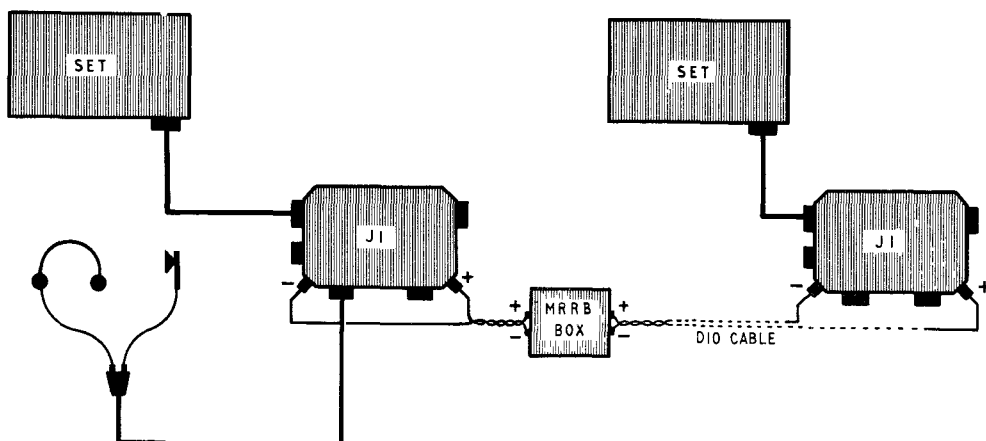

FIG. 6 REBROADCASTING WITH TWO J1s AND MRRB BOX
With an MRRB box connected between two J1s as in fig. 6, a manually controlled rebroadcast link can be operated between two HF sets, or between an HF and a VHF set, or if necessary between two VHF sets on which automatic rebroadcasting is difficult due to bad radio conditions. The MRRB box can also be fitted between J1 and 'R' box, or between two 'R' boxes.
The MRRB box must be within easy reach of an operator at one of the sets. Bolt it to the slotted angle framework in a convenient position. In vehicles not equipped with the framework, bolt it to an improvised mounting. Fit D10 twisted pair cable from the MRRB box to each J1 as shown in fig. 6. Terminals are marked '+' and '-' and correct polarity must be ensured in all connections. If polarity is reversed, both sets go to 'send' at the same time. If one of the sets is dismantled for remote operation, maximum distance between it and the MRRB box must not exceed 1,000 yards.
- (a) If the headset is connected to the J1 on the left of the MRRB box, as in fig. 6, turn the centre switch on the MRRB box to the right, or when using the RH J1, turn the MRRB box switch to the left. Thus with the switch turned away from the J1 in use, press the microphone pressel and speak. This method requires two hands.
If two VHF sets are connected as shown in fig. 6, automatic rebroadcasting can be worked without removing the MRRB box. See section 5 paragraph 4(a) opposite.